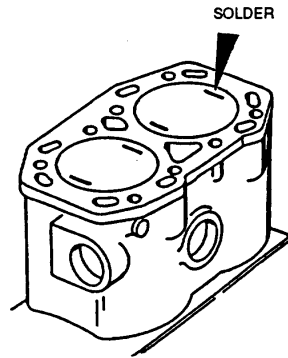

FIGURE 3-30. Checking Cylinder Head Clearance
- (1) Place head gasket onto crankcase. Align holes in gasket with those in crankcase. Rotate engine so pistons are below cylinder head deck.
- (2) Using a very small amount of general purpose grease 630AA), place four pieces of solder (SN60WRAP2) size 0.062 in. (1.58 mm) thick on pistons as shown in FIGURE 3-30. Space solder on outer edge and as near as possible in line with piston pin. Care must be taken to ensure that solder will be clear of valve recesses.
- (3) Install cylinder head and torque bolts, refer to paragraph 3-27.6.
- (4) Manually rotate engine through two complete revolutions.